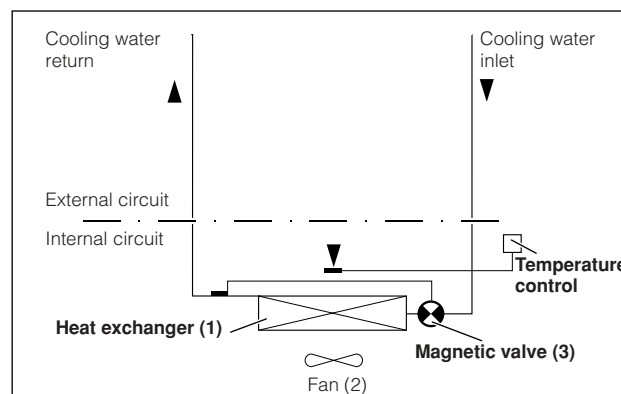

Fig. 2: Air/water heat exchanger
The air/water heat exchanger comprises of three main components (cf. Fig. 2): Heat exchanger package (1), fan (2) and the magnetic valve (3) connected with each other using pipes.